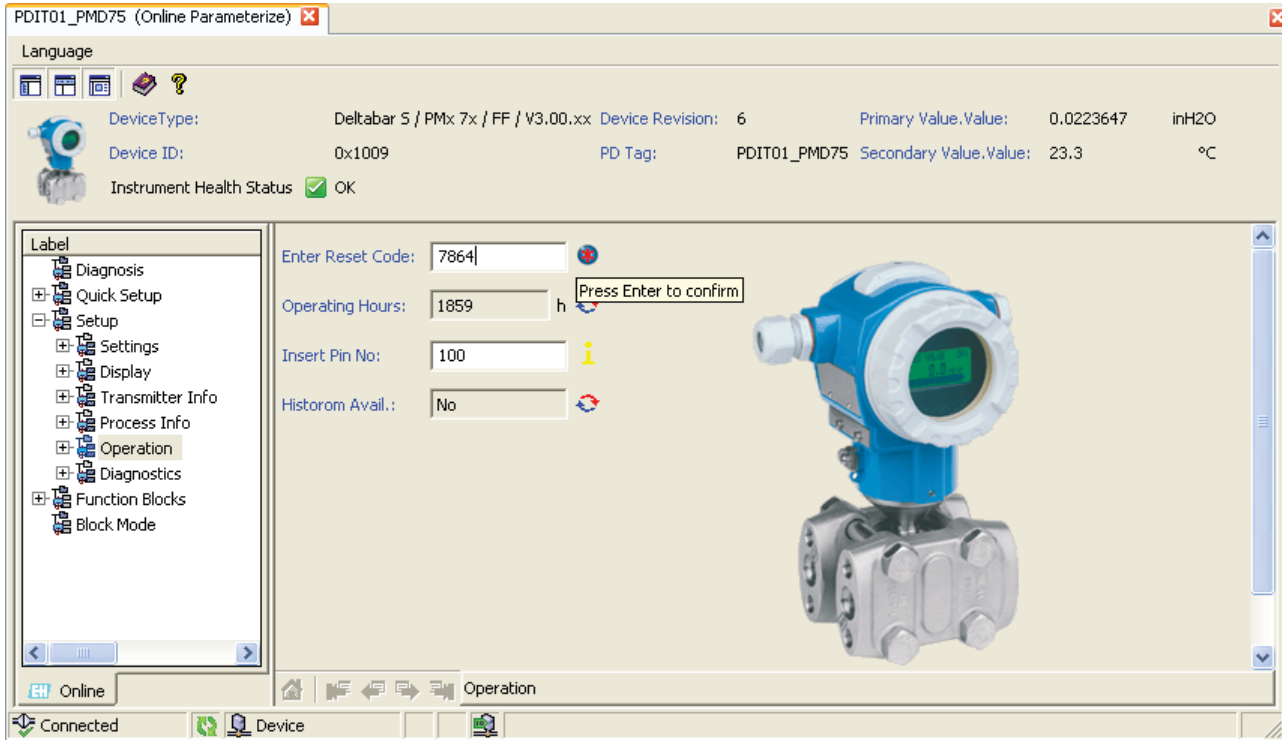

Figure 2-14. Resetting to factory settings.
19. Go to *Setup ► Operation* and type “7864” for *Enter Reset Code* parameter value (Figure 2-14). Confirm your choice by pressing *Enter*.